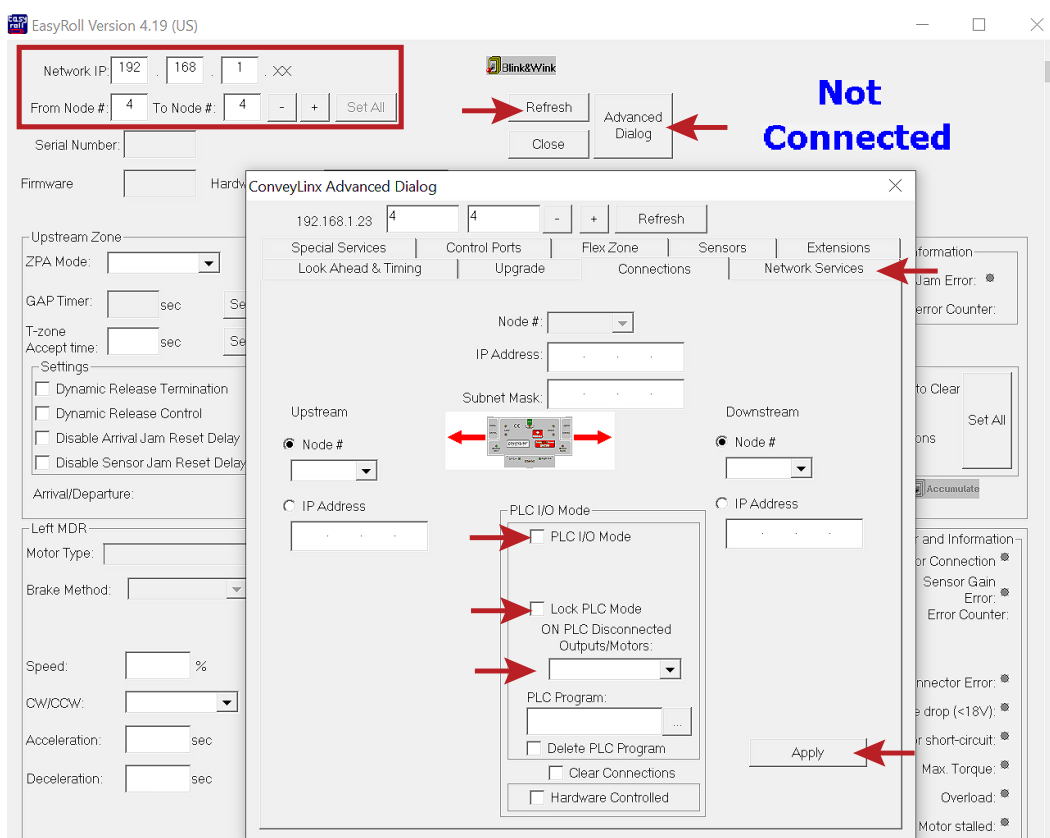

Figure 22: EasyRoll Steps 5-9
4. Next, change the Mask to 255.255.252.0, deselect the Gateway, and then hit the Set button. You are now ready to put the card into PLC mode. (See Figure 22.)
9. In the PLC I/O Mode section in this tab, check the PLC I/O Mode box, then check the Lock PLC Mode box. In the ON PLC Disconnected Outputs/Motors, select the ALL OFF option in the drop down box. Click the "Apply" button. (See Figure 22.)